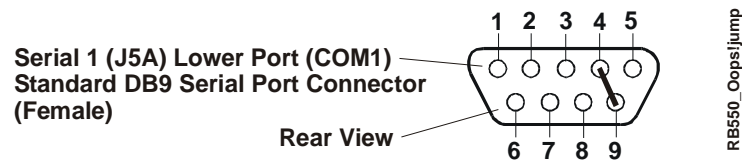

Figure 3-2. Oops! Jumper Connection
To convert the Serial 1 interface to an Oops! jumper, short together the DTR (4) and RI (9) pins on the Serial Port 1 DB9 connector as shown in Figure 3-2.